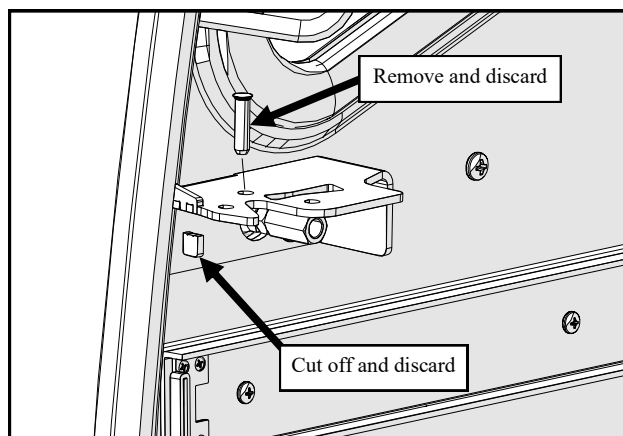

Fig. 1.2 (if necessary, rework latch bracket - right side)
1.2 Using a hammer, remove and discard one press fit pin per fig. 1.2. Using a cut-off wheel or jig saw, remove and discard the section of metal tab shown. **Caution:** Protect Plastic components from sparks when using cut-off wheel. Apply paint to newly exposed raw metal as necessary.